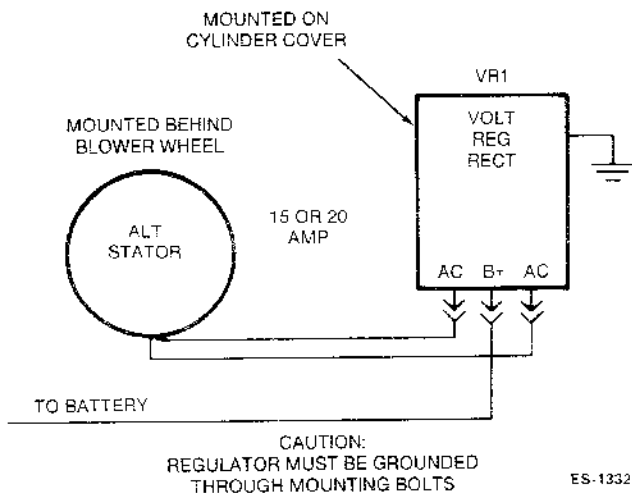

FIGURE 10. 15-AMPERE PHELON SYSTEM DIAGRAM
1. Check the B+ to ground voltage using a DC voltmeter. See Figure 10 for wiring diagram.